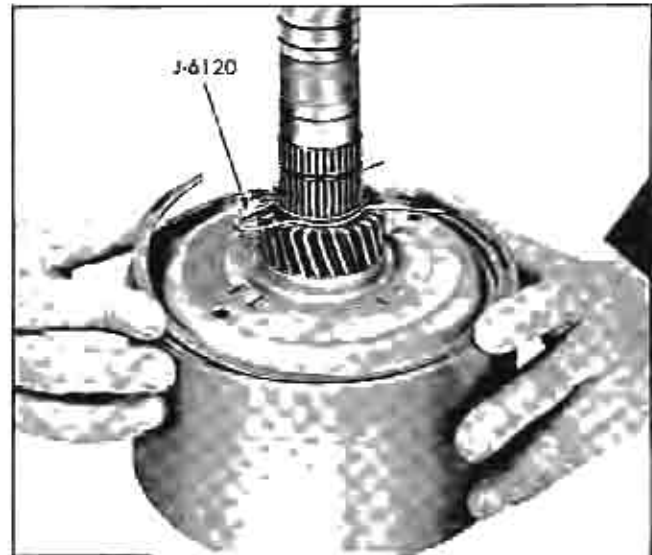

Fig. 87 Installing Output Shaft and Reverse Drive Flange Snap Ring
9. Install output shaft and reverse drive flange assembly in rear unit drum and secure with large snap ring (Fig. 87).